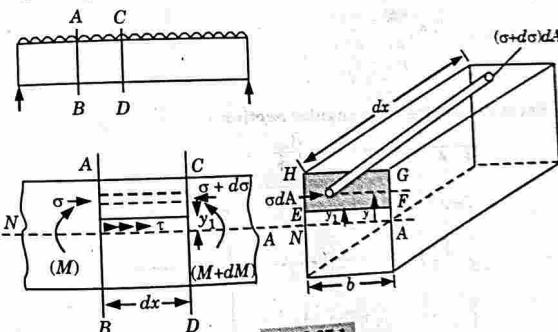

Fig. 3.27.1.
- In Fig. 3.27.1, a simply supported beam carrying a uniformly distributed load. Due to UDL, the shear force and bending moment will vary along the length of the beam.